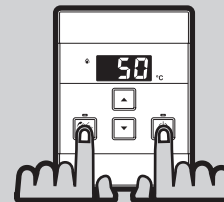

Fig. 3
STEP 1: On the 'Master' controller only, press and hold the 'Priority' and 'On/Off' buttons simultaneously (Fig. 3) until a 'beep' is heard (approximately 5 seconds).